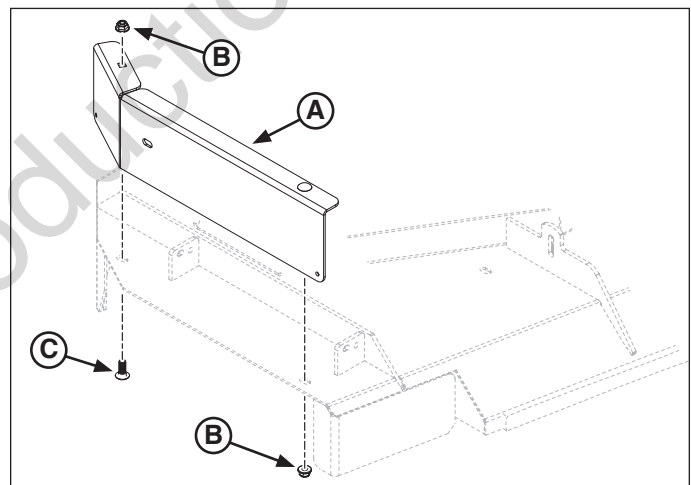
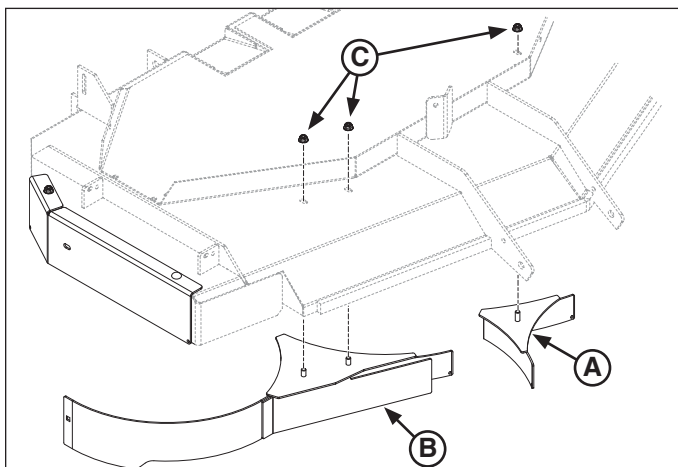

Figure 2. Installing the Blockoff Plate
Figure 3. Installing the Baffles
3. Install the blockoff plate (A, Figure 2) onto the mower deck. Use a 3/8" nut (B) to secure the front and a 3/8" carriage bolt (C) with 3/8" nut (B) on the rear, going up through the bottom of the mower deck.
4. Install both the LH baffle (A, Figure 2) and RH baffle (B) under the mower deck as shown in Figure 3 and loosely secure them with 3/8" nuts (C).